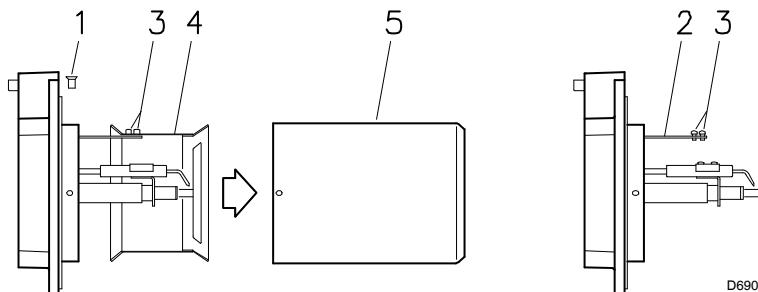

Fig. 8
### 5.5 Securing the burner to the boiler (Fig. 8)
- Unscrew the screws 1) (Fig. 8) and disassemble the blast tube 5)